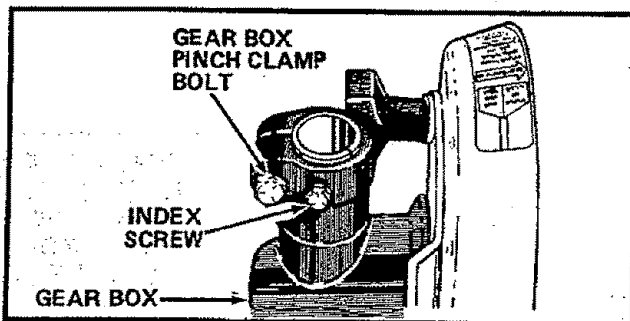

Figure 1
- a. Loosen the pinch clamp bolt on the gear box with a 7/16 inch wrench. Figure 1.
- b. Loosen the index screw with a 5/16 inch wrench. Figure 1.